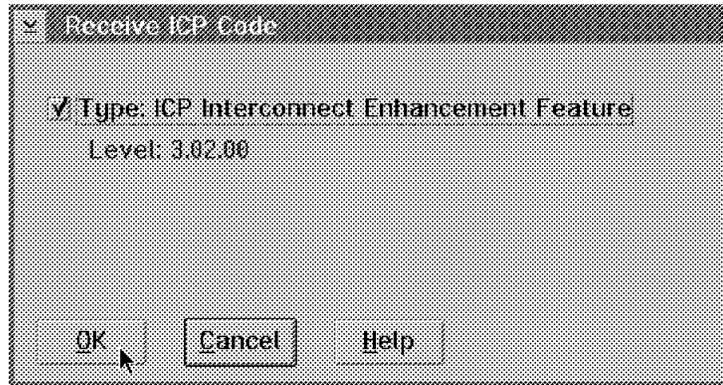

Figure 33. Receive Interconnect Enhancement Feature Code
- The panel shown in Figure 33 on page 69 appears.